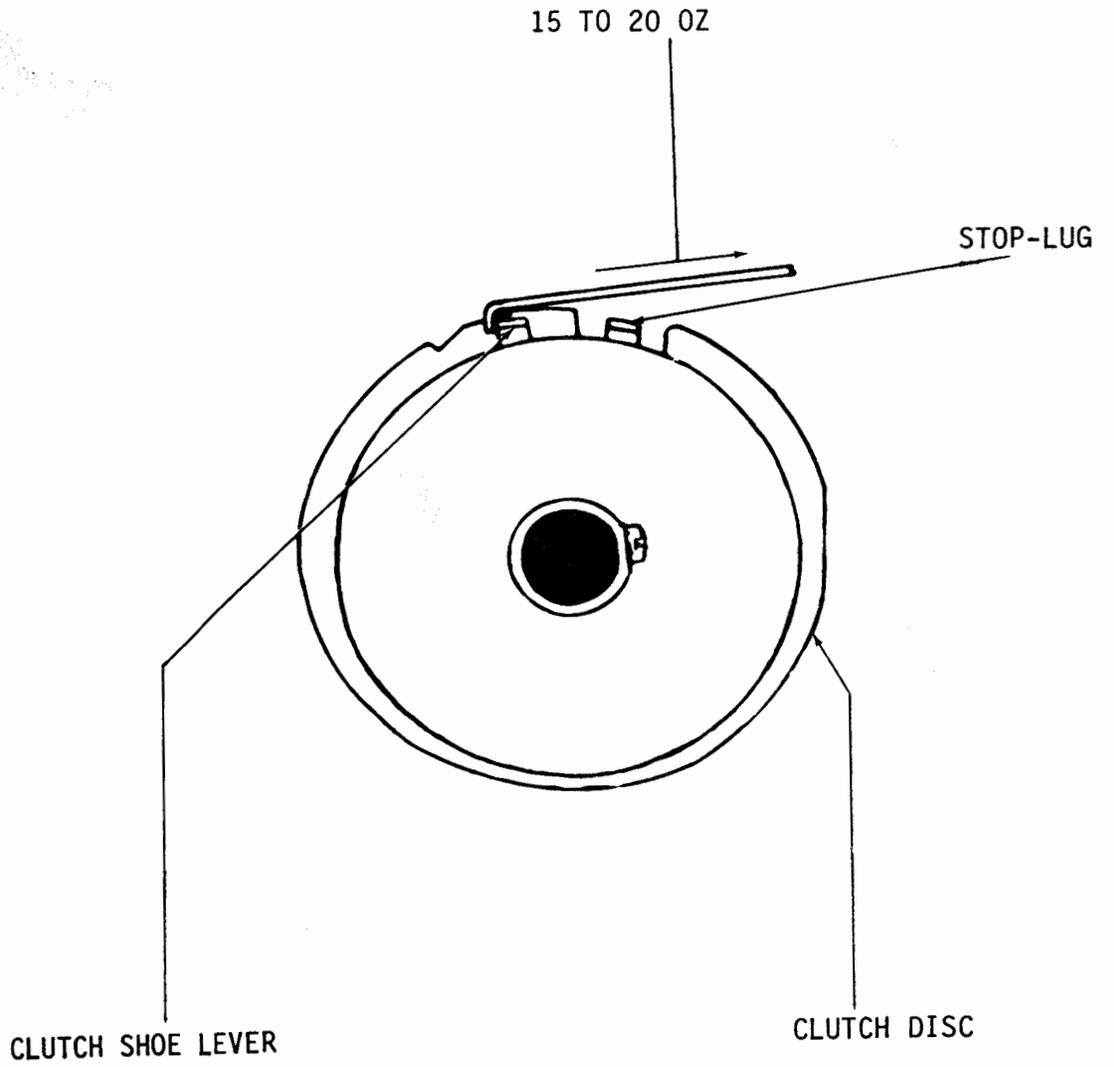

Figure 6-127. Clutch Shoe Lever Spring
(12) Clutch Shoe Lever Spring. Adjust clutch shoe lever spring as follows:
- (a) Refer to figure 6-127.